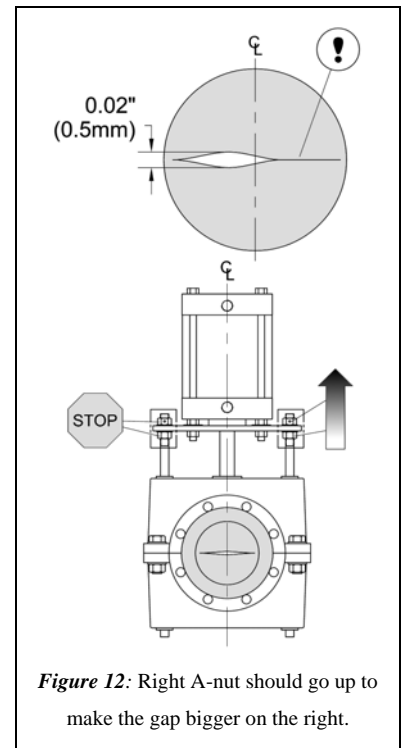

Figure 12: Right A-nut should go up to make the gap bigger on the right.
- to make the gap bigger, the A-nut should go UP (Fig. 12)